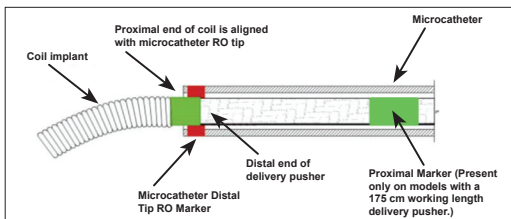

Figure 4 – Position of Marker Bands for Detachment
27. Advance the coil into the desired site until the radiopaque marker on the delivery pusher is aligned or slightly distal of catheter distal tip RO marker, positioning the detachment zone just outside the catheter tip. See Figure 4.